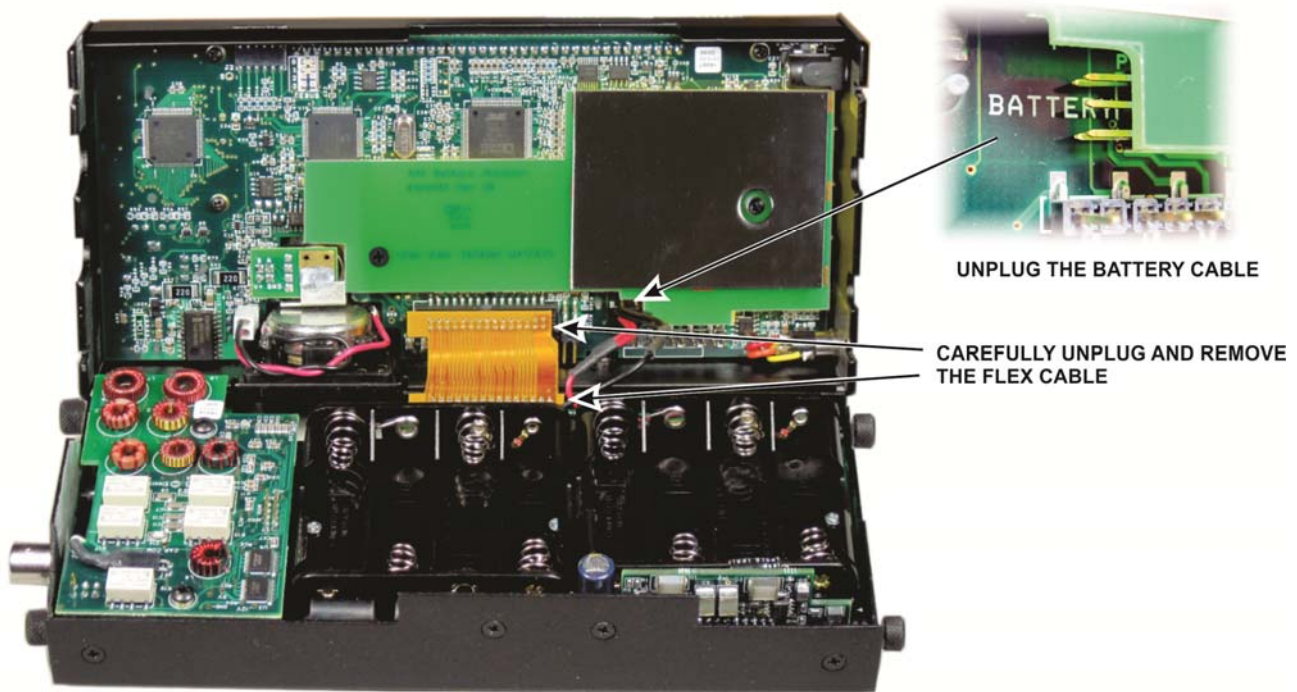

Figure 1. Opening the KX3.
- Disconnect the flex cable and the battery cable as shown in Figure 1. The owner's manual cautions against disconnecting the flex cable. That is because the connectors on the flex cable are not designed for heavy use. It is necessary to disconnect the ribbon cable in this case. Gently work the connectors loose holding the stiff section attached to each connector. Do not pull on the ribbon cable itself.
Set the top and bottom parts of the KX3 next to each other as shown in Figure 1, and then reconnect the flex connector and battery cables. Orient the flex cable as shown, with the longer tab at the connector pointing toward the speaker. Route the battery cable away from the flex cables so they do not interfere when the case is closed.